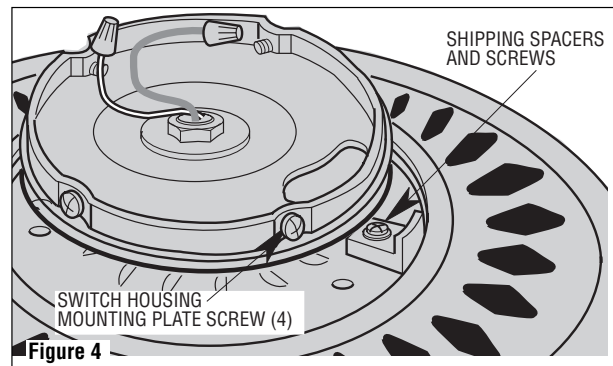

Figure 4
7. Remove the shipping spacers and the spacer attachment screws from the motor before installation of blade assemblies. Discard the spacers and spacer screws (Figure 4).